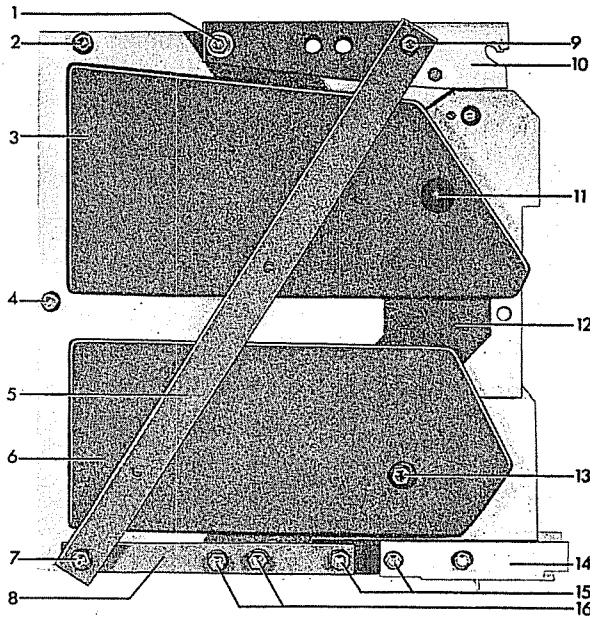
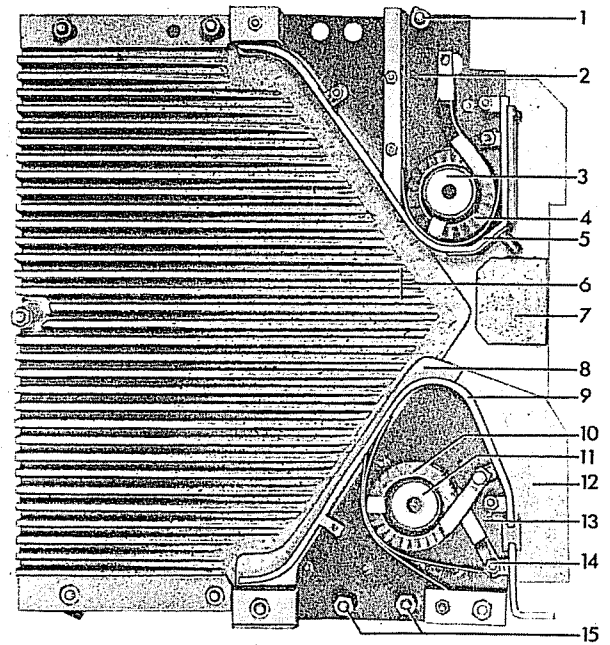
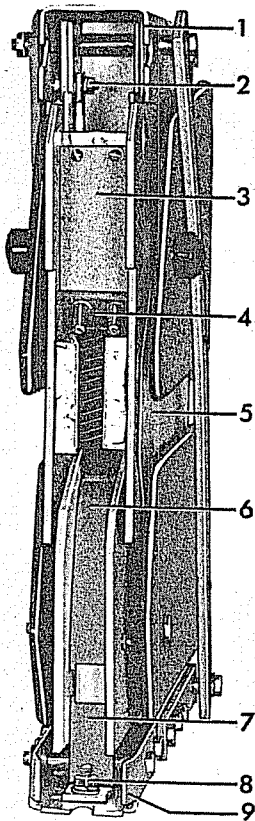

Figure 18. (8039601) Interrupter Assembly
Figure 19. (8039603) Interrupter Assembly with Side Removed
Figure 20. (8039604) Interrupter Assembly
4. The plastisol flexible covering for the pole pieces (3 & 6) Figure 18 and the upper mounting support (10) should be inspected for breaks in the insulation. If there are holes or breaks in the insulation they should be repaired or the part replaced.
1. Remove the caps and assembly bolts (7, 9, 11, & 13) Figure 18.
2. Remove the side brace (5), and pole pieces (3 & 6).
3. To remove the upper interrupter support (10) remove the assembly bolt (1), and the bolted connection (2) Figure 20 between the upper interrupter support and the blowout coil.
4. Remove the assembly bolt (16) Figure 18 to remove the lower brace (8).
5. Remove the lower interrupter support (14) by removing the assembly bolts (15) and the connection nut (8) Figure 20.
6. At this point, the side shields (5) Figure 20, and the arc runner assemblies (4 & 6) can be removed.
lower arc runner assemblies can be done by removing the various screws and assembly bolts (not illustrated) as shown in Figure 19.
8. The arc chute sides (6) Figure 19, can also be separated for inspection after removing assembly bolts (2 & 4) Figure 18.
5. Before bolting the upper supports in place, make certain that the upper arc runner assembly is tight against the arc chute side so that the gap between the throat insulation (7) Figure 19, and the arc chute sides (6) is a minimum.
6. Make certain that the electrical connections (2 & 8) Figure 20 are tight.